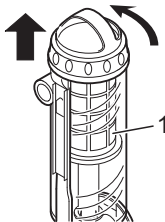

Fig.20
4. Open the cover on the dust container by turning it anti-clockwise and lift it up (Fig. 20).
5. Pull the unit for the central filter protective screen and the central laminar filter up and out (Fig. 20/1).